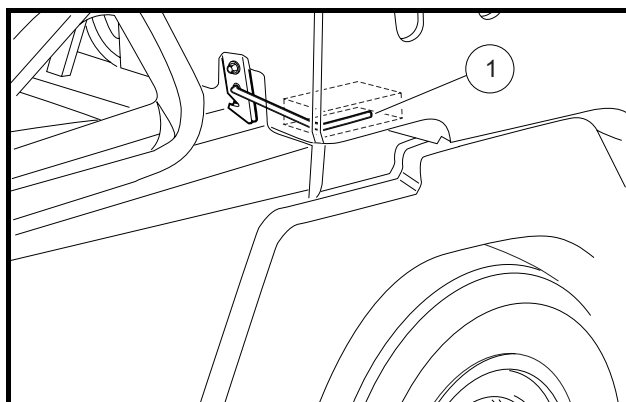

Figure 15 Bed Latch
The bed latch (1) is located under the front corners of the bed (**Figure 15, Page 25**) and engages automatically when the bed is closed. To lift the bed, pull the bed latch toward the side of the vehicle and lift the bed. To close the bed gently lower the bed to a closed position. **DO NOT** drop the bed. **See following WARNING.**